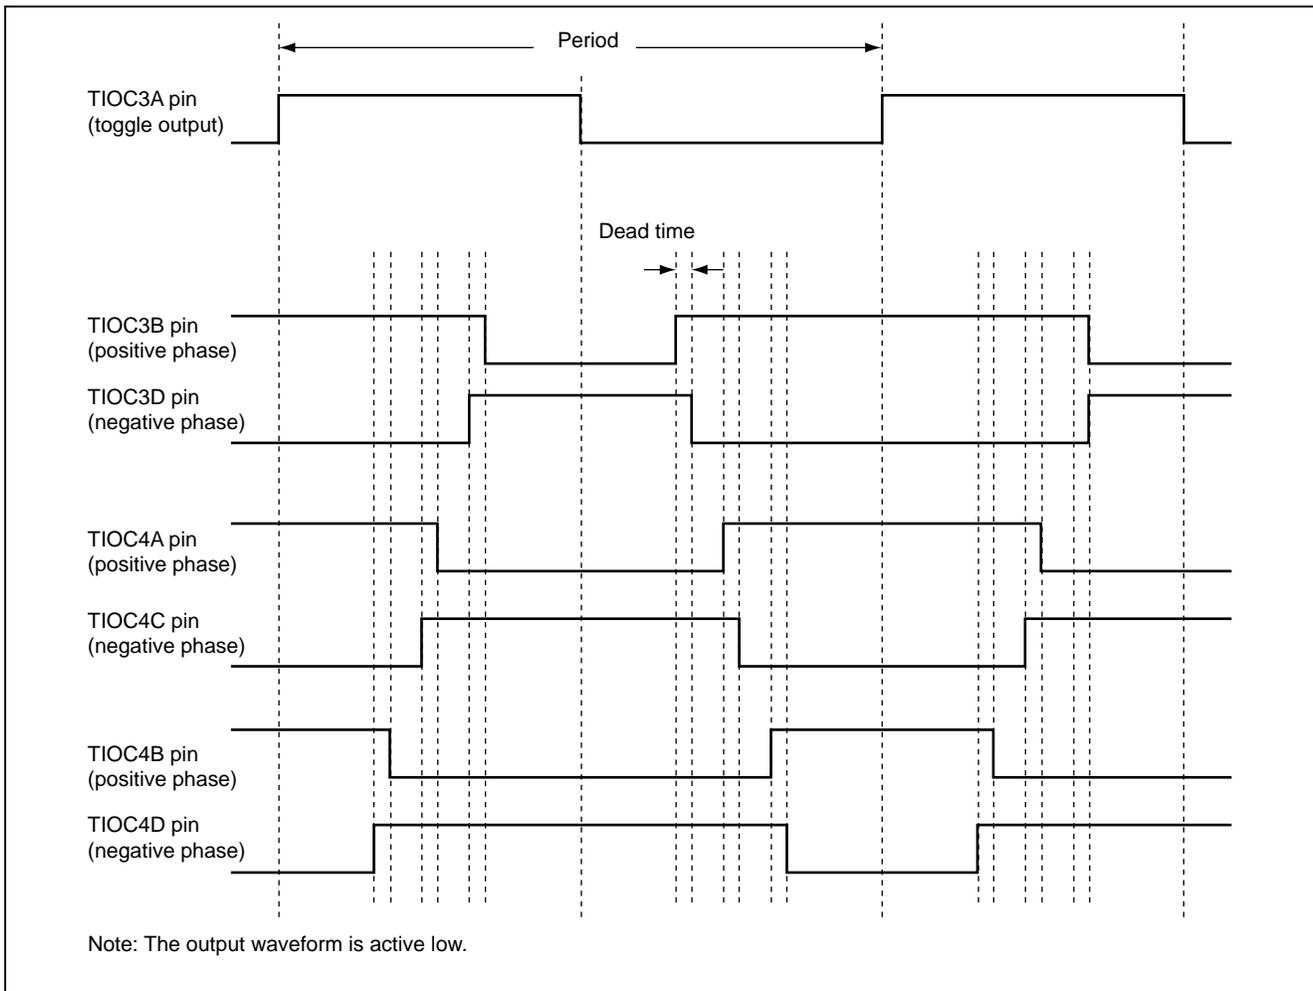

Figure 1 Three-Phase Complementary PWM Output Waveforms
- (1) In this sample task, PWM waveforms are generated by using the MTU2*.
- (2) As shown in figure 1, three phases of PWM waveforms, each phase comprising a pair of positive and negative phases, are output.
- (3) The PWM waveform includes the time intervals (dead time) during which the positive and negative phases will not both be active at the same time.
- (4) The dead time may be set to any desired length (no dead time can also be specified).
- (5) The duty cycle may be set to any value between 0 and 100%.